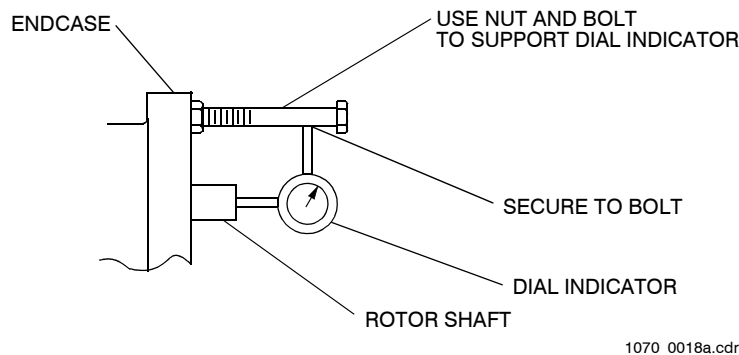

Figure 2-5. Rotor Clearance Adjustment
1. Install four bearing adjusting nuts (14) on two endcases (17), leaving about 1/2-turn short of bearing contact.
2. On idler rotor assembly (23) tighten one bearing adjusting nut (14) until rotor contacts liner (22). Install dial indicator on opposite end of shaft as shown in Figure 2-5 and zero indicator.
3. Loosen previously tightened bearing adjusting nut (14). Tighten opposing bearing adjusting nut until rotor just contacts the other liner and note reading. This is the total clearance.